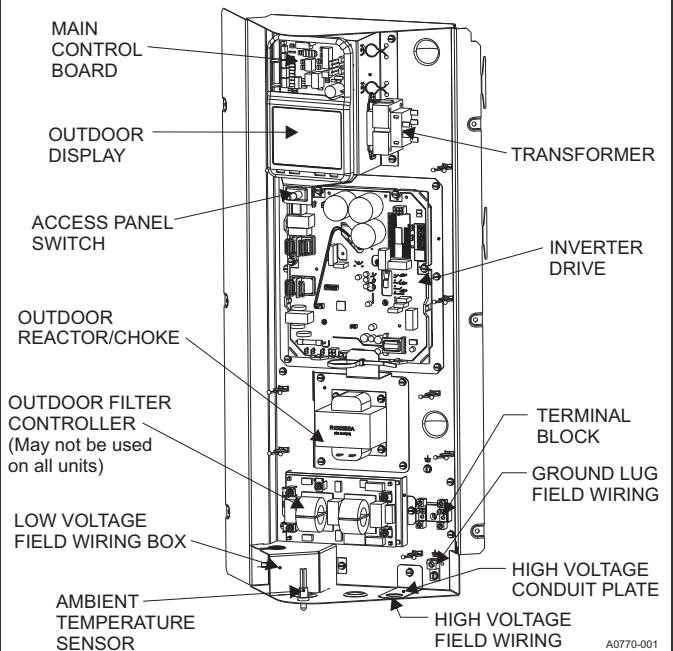

FIGURE 6: Outdoor Unit Control Box
4. Route wires from disconnect through power wiring exit provided and into the unit control box as shown in Figure 1 and view the openings in Figure 6.
1. Route low voltage wiring into bottom of control box. Connect low voltage wiring inside the low voltage box. See Figure 6.